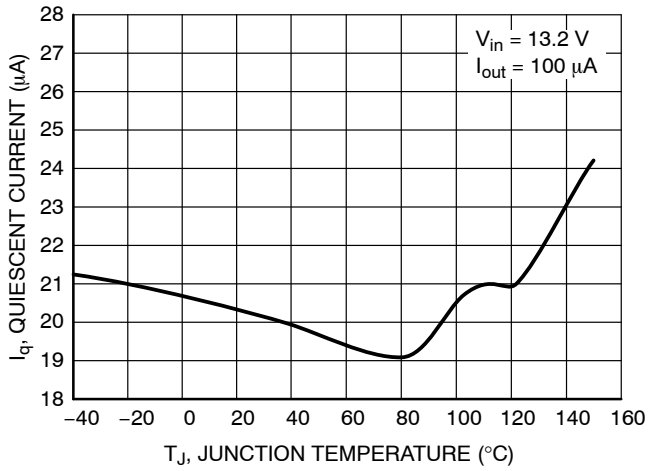
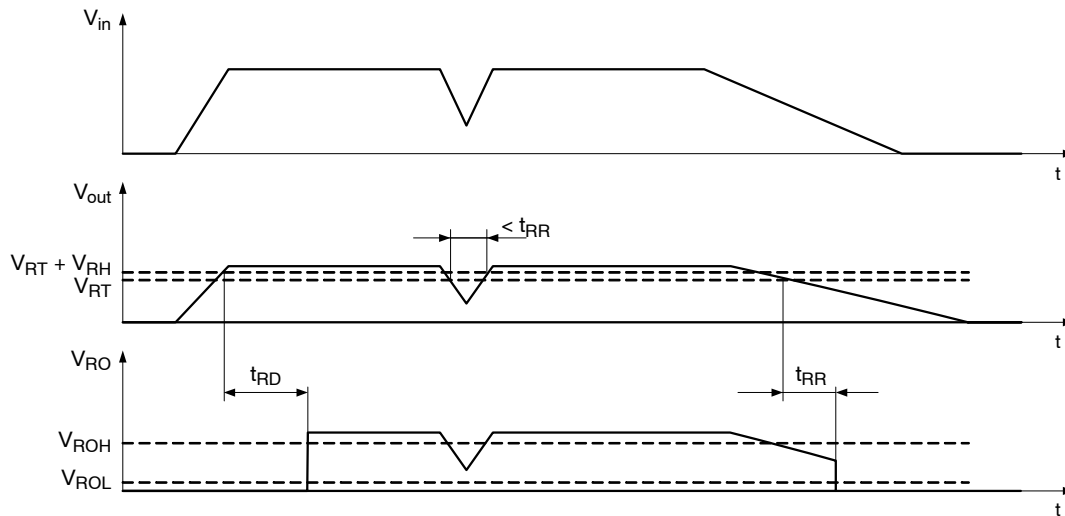

Figure 4. Quiescent Current vs. Temperature
Figure 21. Reset Function and Timing Diagram
| Reset Reaction Time (see Figure 21)                                                                                         |                                                                                          | $t_{RR}$    | 16                   | 25         | 38                   | $\mu\text{s}$ |
The NCV8770 regulator is self-protected with internal thermal shutdown and internal current limit. Typical characteristics are shown in Figure 4 to Figure 21.
A reset signal is provided on the Reset Output (RO) pin to provide feedback to the microprocessor of an out of regulation condition. The timing diagram of reset function is shown in Figure 21. This is in the form of a logic signal on RO. Output voltage conditions below the RESET threshold cause RO to go low. The RO integrity is maintained down to  $V_{out} = 1.0$  V. For 5 V voltage option, the Reset Output (RO) circuitry includes internal pull-up (30 k $\Omega$ ) connected to the output ( $V_{out}$ ). No external pull-up is necessary.